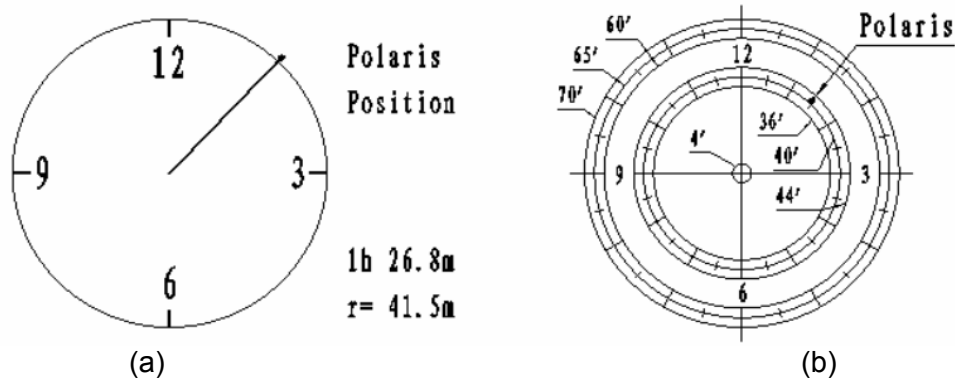

Figure 13
- (1) Turn on the mount power by pressing the **On/Off** switch on the R.A. unit. Make sure that the time and site information of the hand controller is correct. Press the **MENU** button, then select “**Align**” and “**Pole Star Position**” to display the current Polaris position. For example, on May 30, 2010, 20:00:00 in Boston, United States (Lat N42°30’32” and Long W71°08’50”, 300 min behind UT, DST set to Y), the Polaris Position is 1hr 26.8m and  $r = 41.5m$ , as shown in Figure 13 (a).
- (2) Look through the polar scope; make sure the polar scope is not blocked by the DEC axle. The 12 o’clock indicator of the Polar Scope Dial must be positioned on top.
- (3) Follow the ***Polar axis adjustment*** procedure (**not the hand controller**) to adjust the mount in altitude (latitude) and azimuth (heading) direction and place Polaris in the same position on the Polar Scope Dial as indicated on the HC LCD. In this case, the Polaris will be located at a radius of 41.5’ and an angle of 1 hour 26.8 minute, as shown in Figure 13 (b).